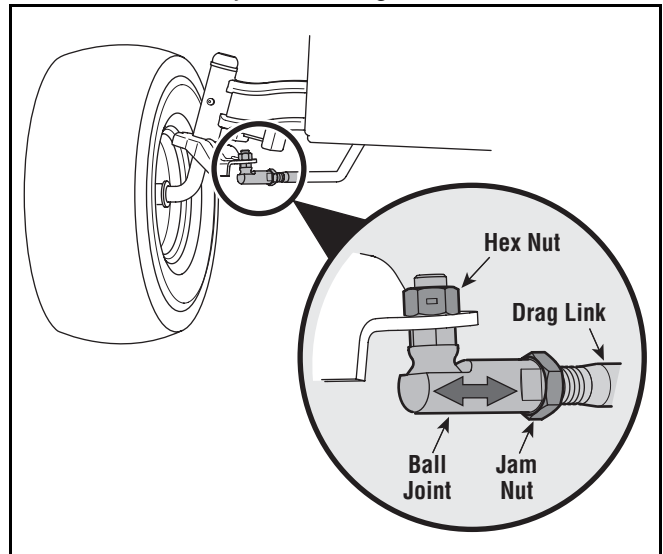

Figure 12
- Loosen the jam nut found on the drag link at the rear of the ball joint. See Figure 12.
- Remove the hex nut on the top of ball joint. See Figure 12.